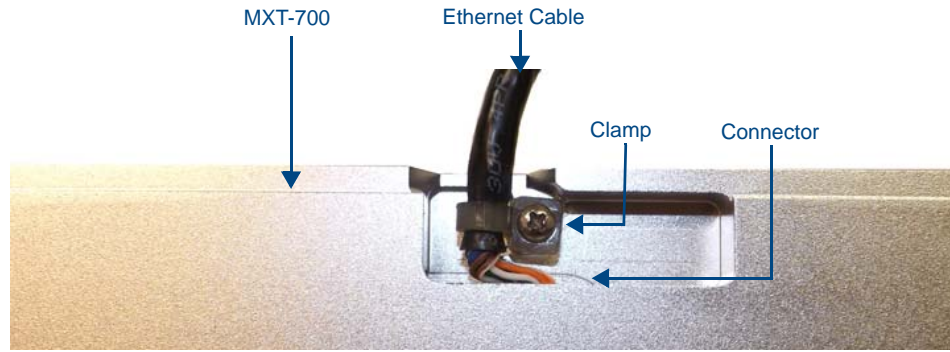

FIG. 11 Bottom of the MXT-700
2. Remove the clamp holding the Ethernet cable (FIG. 11) until the Ethernet cable moves freely.